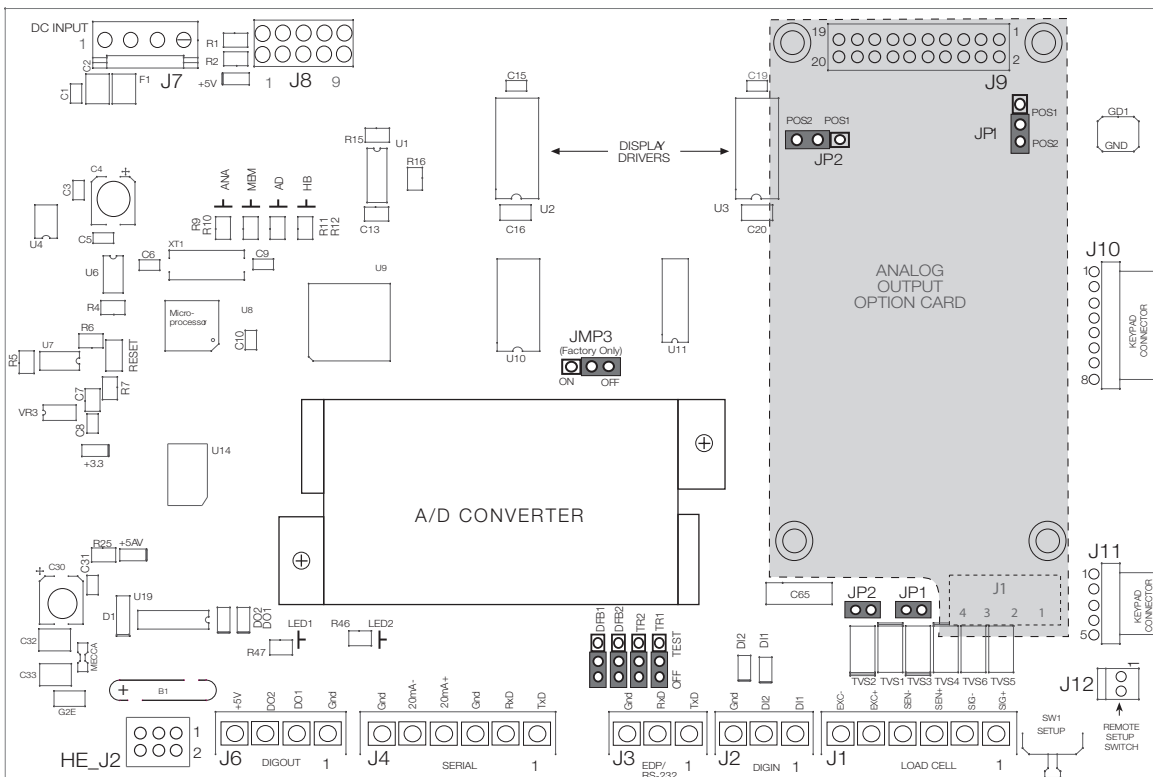

Figure 1-3. 420 Plus CPU and Power Supply Board with Analog Output Option Card
- Two, six-position screw terminals (PN 70599) for connectors J4 & J1, two, three-position screw terminals (PN 71125) for connectors J2 and J3, and one, four-position screw terminal (PN 71126) for connector J6 (see figure 1-3).
Using one of the 6-position connectors, provided in the parts kit, wire the load cell cable from the load cell or junction box to connector J1 on the CPU board (See Figure 1-3 7). If using six-wire load cell cable (with sense wires), remove jumpers JP1 and JP2 before reinstalling connector J1 (see Figure 1-3). For four-wire installation, leave jumpers JP1 and JP2 on. When connections are complete, reinstall connector J1 onto the header so that it snaps securely into place. Use two cable ties to secure the load cell cable to the inside of the enclosure.
Once cables are attached, reconnect J3 and J4 to the headers on the board (see Figure 1-3). Use cable ties to secure serial cables to the inside of the enclosure.